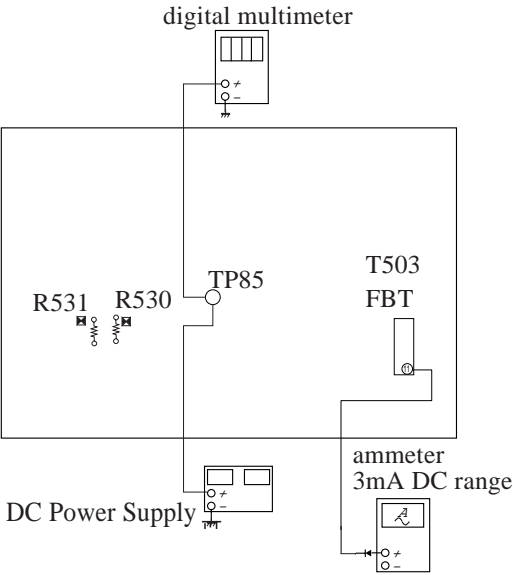

Figure 1
1. Connect the current meter between Pin 11 of the FBT (T503) and the PWB land where Pin 11 would normally attach (See Figure 1 above).
4. Connect the digital voltmeter and the DC power supply to TP85 and ground. (See Figure 1 above).